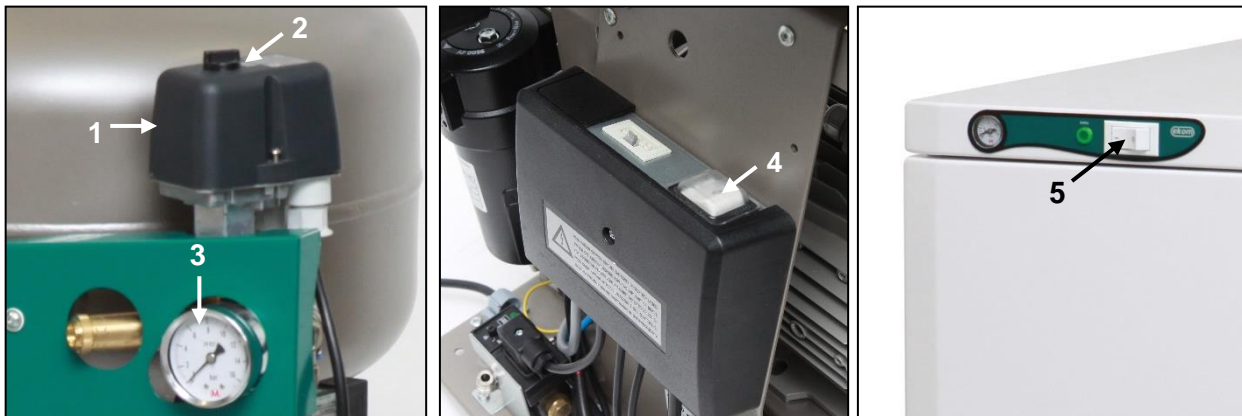

Fig. 13
- Check the position of the breaker switch to ensure it is in the "I" position. Turn the breaker switch (4) to the "I" position if found in the "0" position. (Fig. 13)
- For cabinet-mounted compressors, turn the switch (5) on the front side of the cabinet to the "I" position; a green indicator indicates the device is in operation. (Fig. 13)
(Fig. 13)